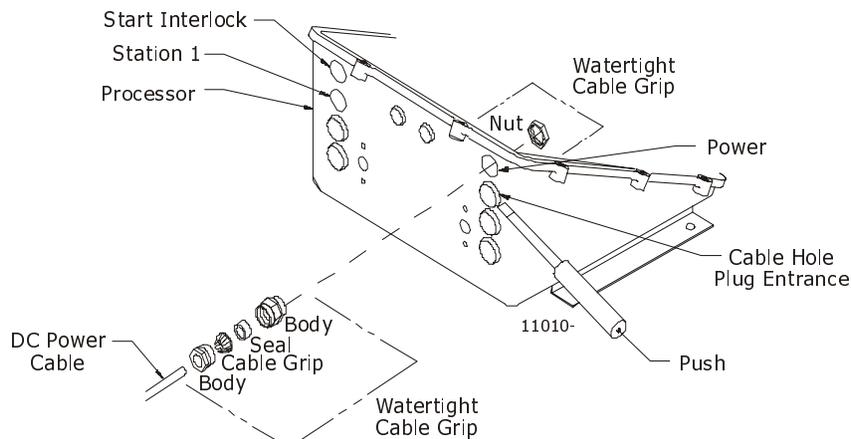

Figure 8: Plug Removal and Cable Grip Installation
- D) Install the watertight cable grips needed for cable entrance. Refer to Figure 8: Processor Connections and Set-up